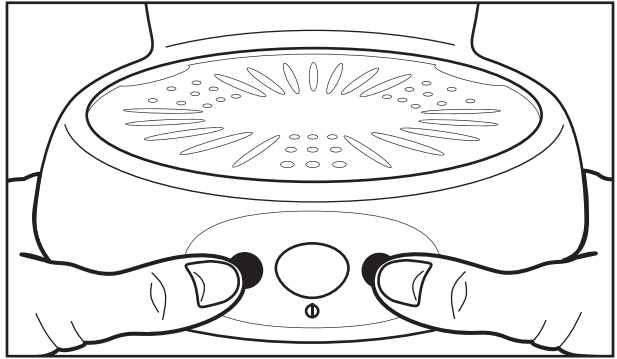

FIGURE 8
9. Press the Power Light/Indicator Button to turn power on, then simultaneously press the 5-ounce and 8-ounce Serving Buttons, see Figure 8.